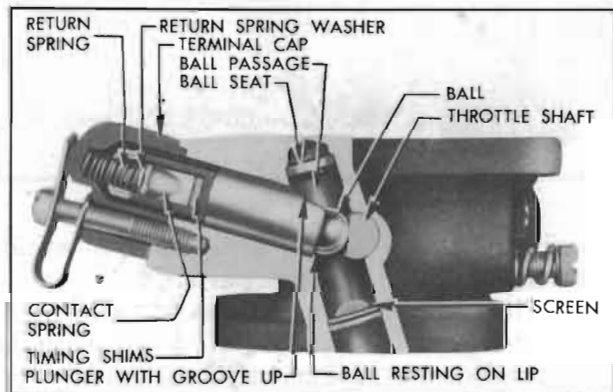

Figure 3-36—Correct Installation of Switch Parts
15. Hold down on vacuum switch terminal cap while removing hold-down clip. Remove terminal cap and switch return spring, then lift out switch guide block with contact spring and shims. Do not lose timing shims and the spring washer on contact spring. Turn body flange over to allow plunger and ball to drop into hand. See figure 3-36.
Place switch ball in body flange. Place guide block in switch plunger and install in body flange with *grooved side of plunger upward* toward main body flange. Install switch return spring and terminal cap, holding cap down while installing hold-down clip and screw. See figure 3-36.